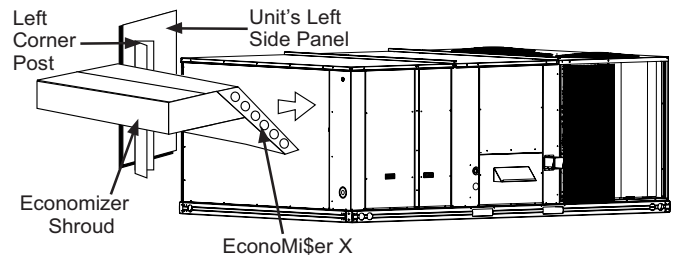
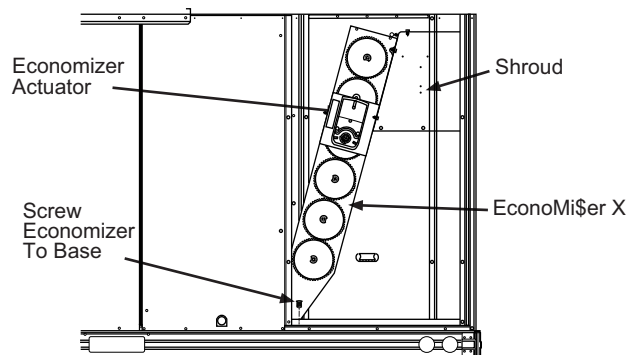
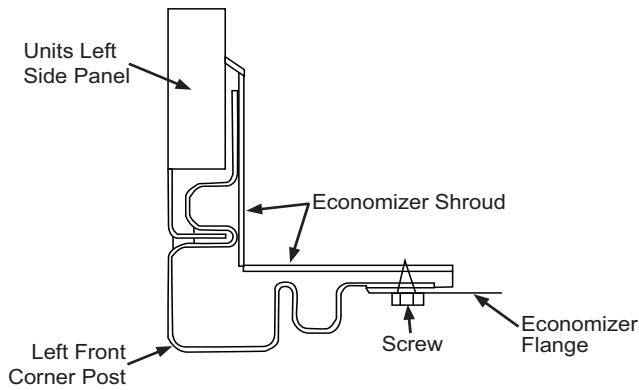

Fig. 3 — Unit Left Side Panel and Corner Post
Fig. 4 — Side View
Fig. 5 — Top View
4. Remove the unit's left side corner post and left side panel from the unit to allow for easy economizer installation. (See Fig. 3.)
5. Install economizer, with shroud attached as shown in Fig. 3, into the return air section of the unit. Be careful not to pinch the wires during installation. The bottom of the economizer will rest on the base of the unit. (See Fig. 4.)
6. Reinstall the left side corner post on to the unit. NOTE: The corner post will sit behind the economizer shroud flange (see Fig. 5). Screw through the corner post and through the economizer shroud. (See Fig. 4 and 5.)
7. Insert provided screw through the bottom left rear of the economizer and into the unit base. (See Fig. 5 and 6.) Reinstall the unit's left side panel.
5. Install economizer with shroud attached, as shown in Fig. 3, into the return air section of the unit. Be careful not to pinch the wires during installation. The bottom of economizer will rest on the base of the unit. (See Fig. 4.)
6. Reinstall the left side corner post on the unit. Note the corner post will sit behind the economizer shroud flange. Screw through the corner post and through the economizer shroud. (See Fig. 5 and 6.)
7. Insert provided screw through the bottom left rear of the economizer and into the unit base. (See Fig. 4). Install the new (provided) left side panel without the duct opening on the unit.